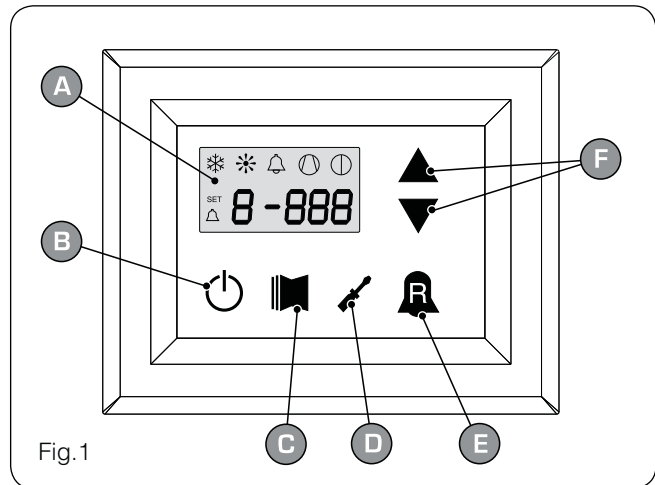

Fig.1
• **READINGS menu (key (C) Fig.1)**
• **SETTINGS menu (key (D) Fig.1)**
• **ALARM log (key (E) Fig.1)**
User interface (Fig.1)